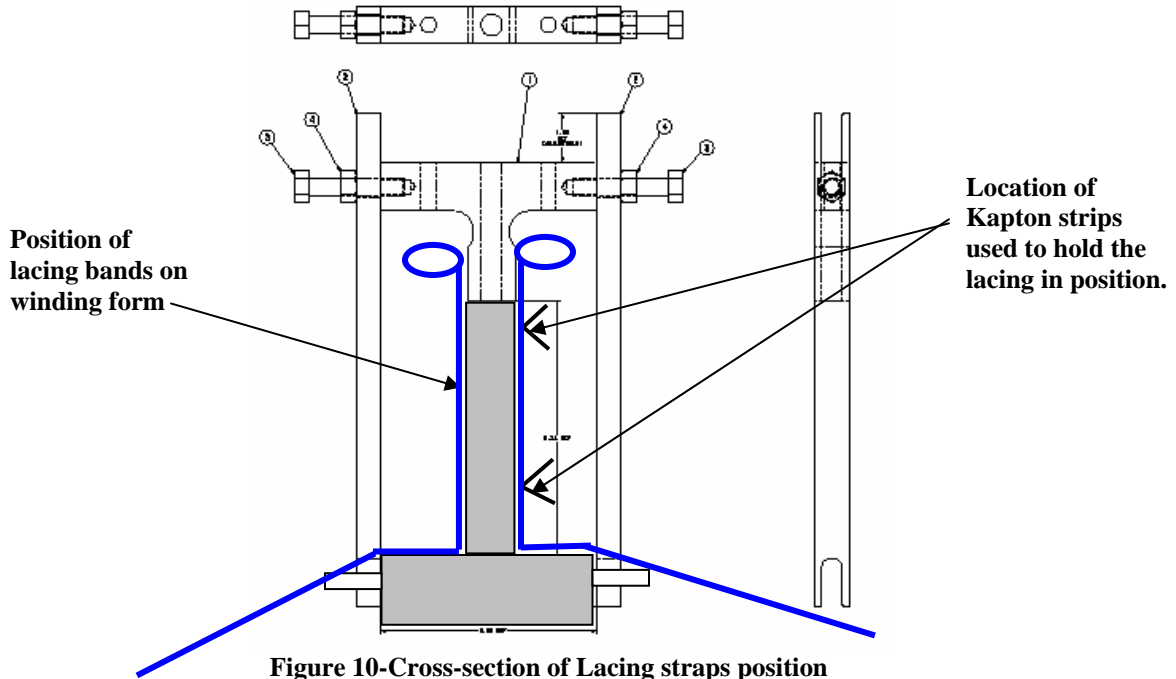

Figure 10-Cross-section of Lacing straps position
- 6.10.1 Place single bands of 0.004 inch thick x 0.5 inch wide x 18 inch long glass tape onto the groundwrap (sides “A” and “B”) in positions located either side of the winding clamps. [See Figure 9- Position of Lacing Straps and Figure 10-Cross-section of Lacing straps position]
- 6.10.3 The upper bands of lacing shall be rolled and stored with the Groundwrap insulation. Hold in position with non-conductive fasteners. On the lower side, a minimum of 6 inches should extend beyond the winding surface. This end cannot be rolled, but should remain loose. [See Figure 10-Cross-section of Lacing straps position]